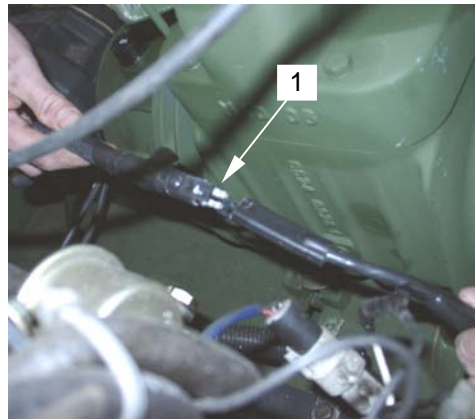

Figure 34. Connecting Lighting Harness
32. Connect the lighting harness plug (**figure 34, item 1**)